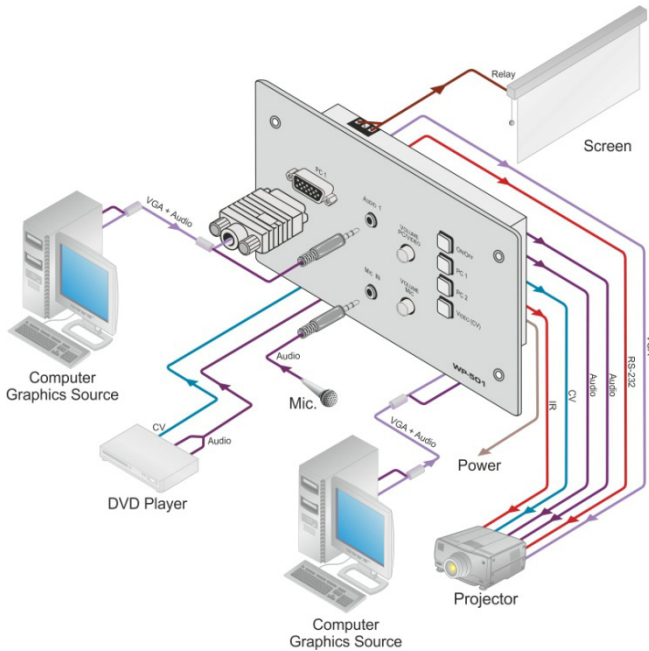
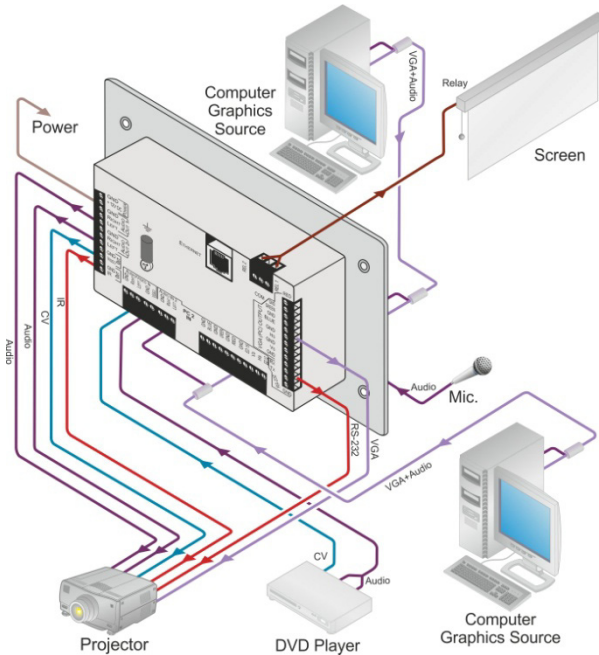

Figure 5: Connecting the WP-501 Front Panel
Figure 6: Connecting the WP-501 Rear Panel
To connect the **WP-501**, as illustrated in the example in Figure 5 (front panel) and Figure 6 (rear panel), do the following:
5. Connect the ETHERNET port to a PC for configuration and control (not shown in Figure 6), see Section 5.3.